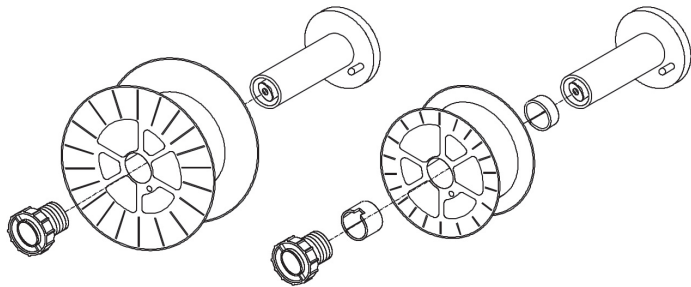

Figure 4
- Loosen the nut of the spool holder (brake-drum). (Fig.4)